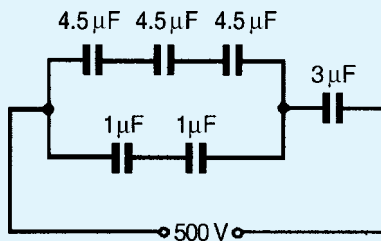

Figure 6.11
6. For the arrangement shown in Fig. 6.11 find (a) the equivalent circuit capacitance and (b) the voltage across a $4.5 \mu\text{F}$ capacitor.